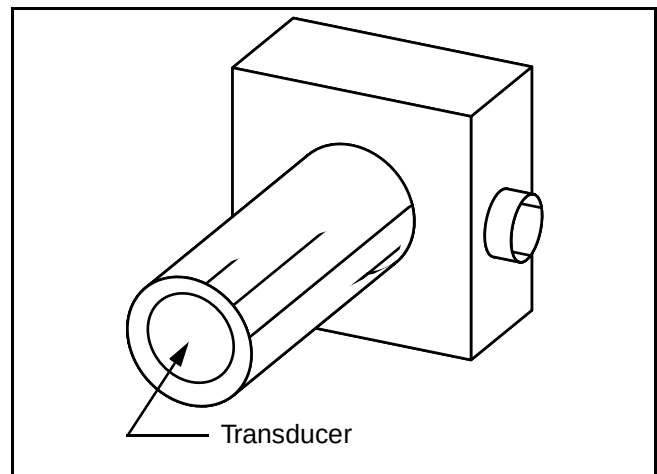

Figure 3 - 60 Cleaning sonic sensor
- 3) Check transducer daily for material buildup. The transducer can be cleaned with Simple Green cleaning fluid. Place cleaning fluid on a clean rag and rub transducer gently to remove any material. Wipe transducer clean and dry. (Figure 3 - 60)